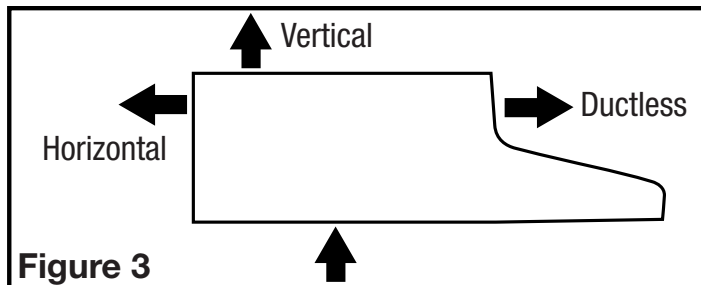

Figure 3
- Choose the type of ducting you will require. This model is equipped to vent either Vertically or Horizontally through a 3-1/4" x 10" or 7" round duct. It can be modified to be ductless (re-circulates the air back into the kitchen) with the addition of a model RF55 combination grease/charcoal filter (not included) (**Figure 3**).